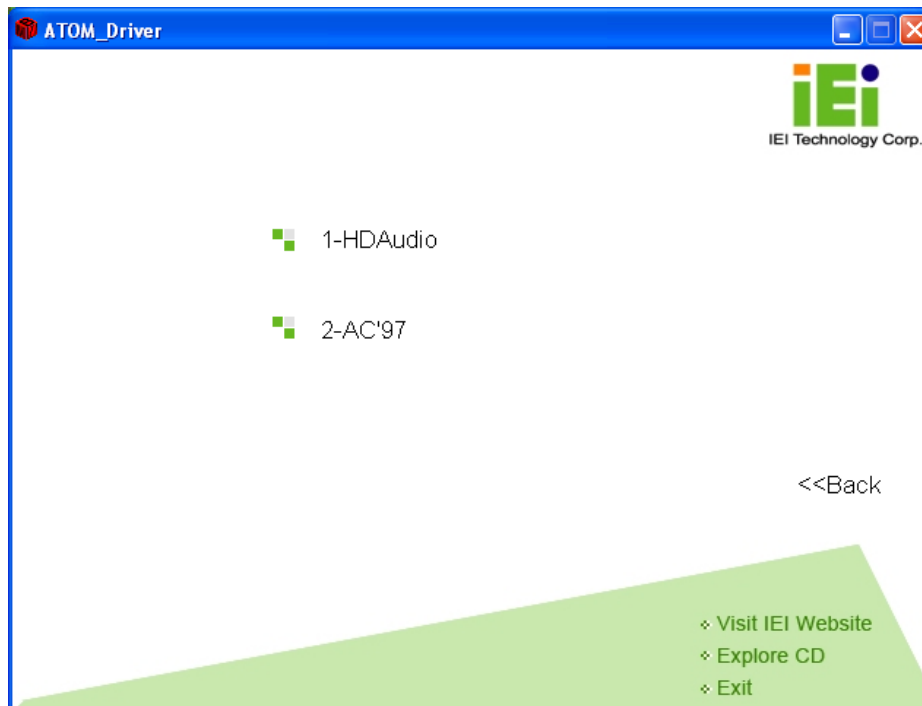

Figure 7-21: Audio Driver Options
Step 3: The screen in Figure 7-21 appears
Step 4: Select “2-AC’97” in Figure 7-21